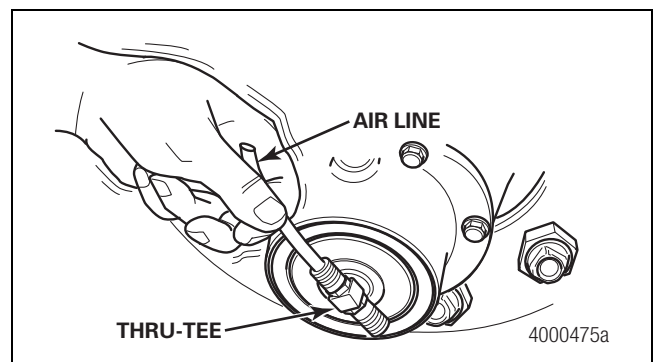

Figure 3.3
5. Check all of the male hose connections at the thru-tee assemblies by pushing a short piece of tire inflation system air line into the fitting. Air should flow from the male hose connection. Figure 3.3.